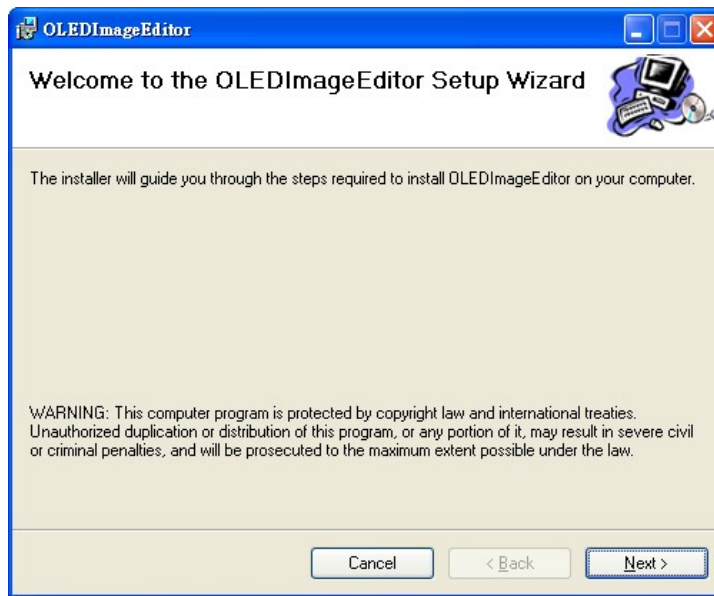

Figure 6-1: OLED Image Editor Setup Wizard
- Step 3:** The OLED Image Editor Setup Wizard welcome window appears (**Figure 6-1**). Click **Next** to start.